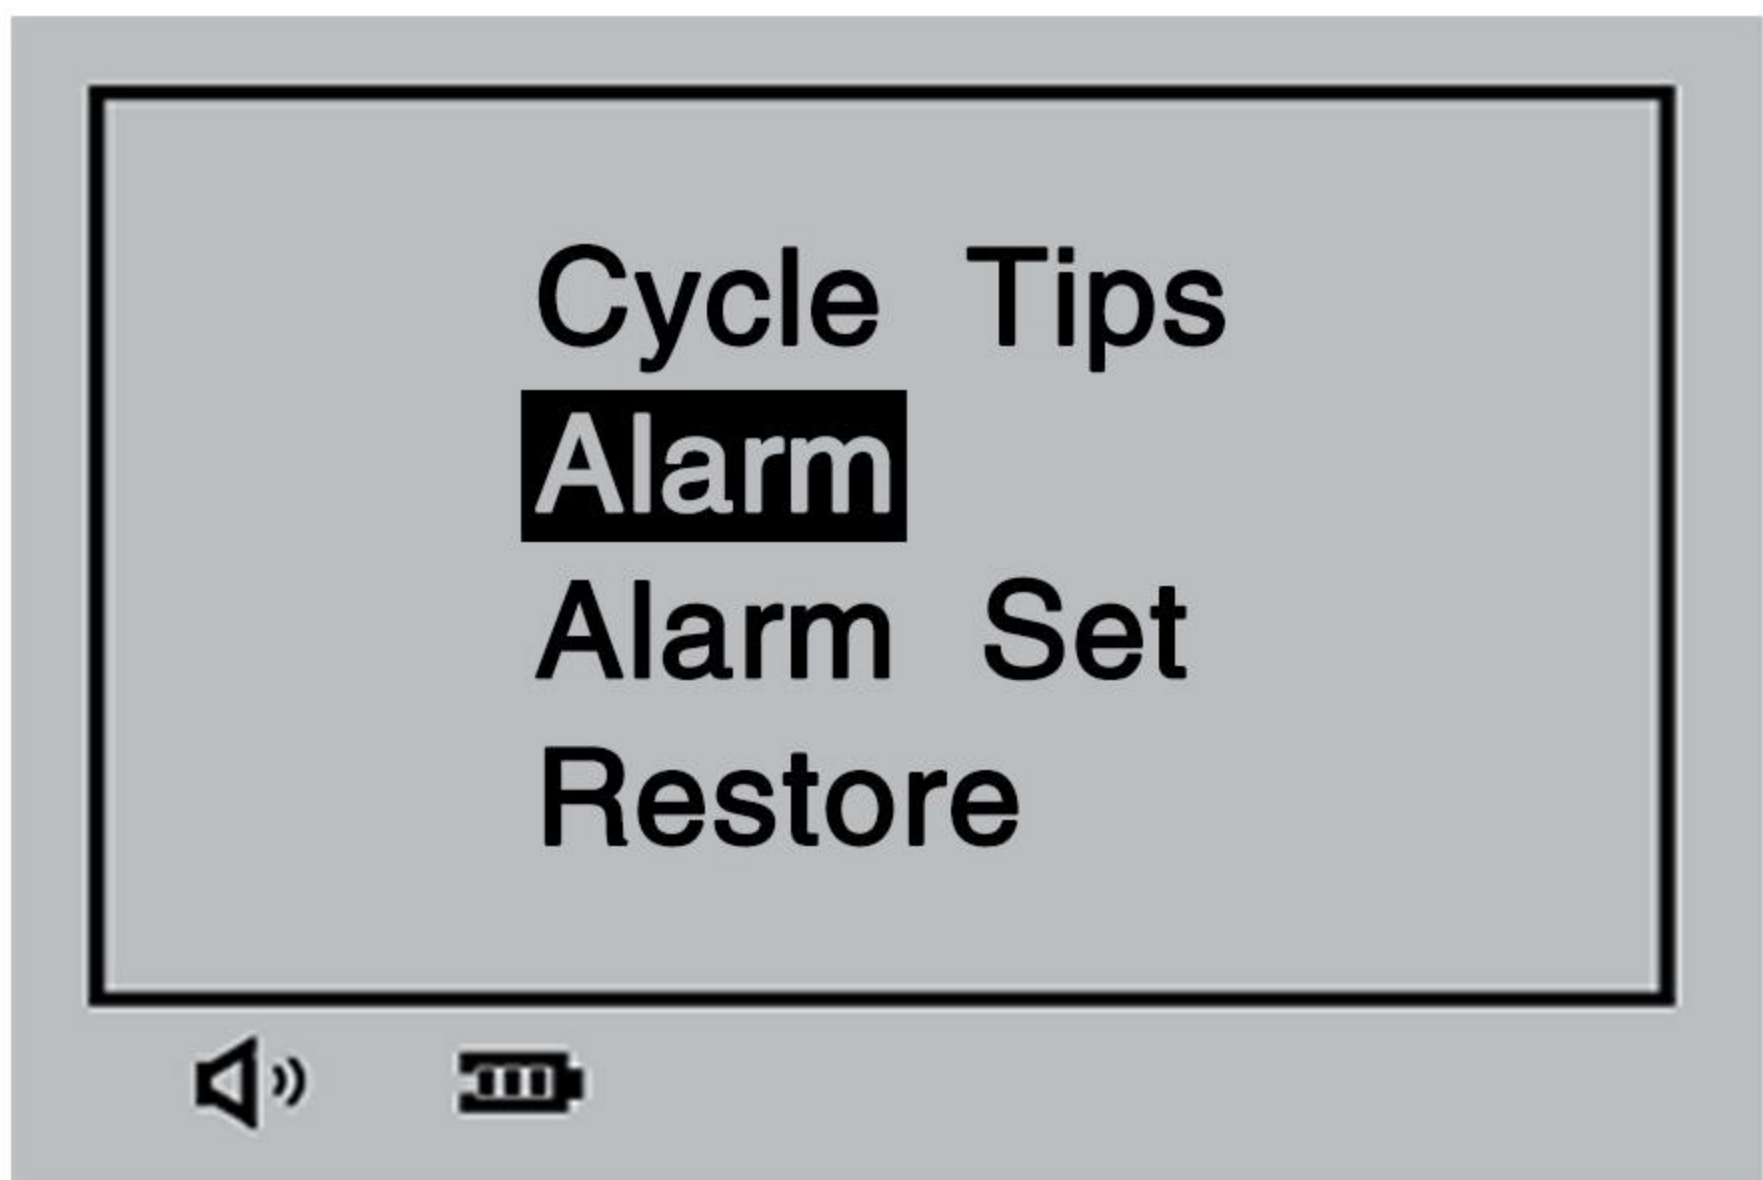

Figure 6
You can select "Yes" or "No" by pressing the "▲" (up) or "▼" (down) buttons. Press the "①" button to confirm and save, then return to Figure 6, or press the "M" button to exit without saving and return to Figure 6.